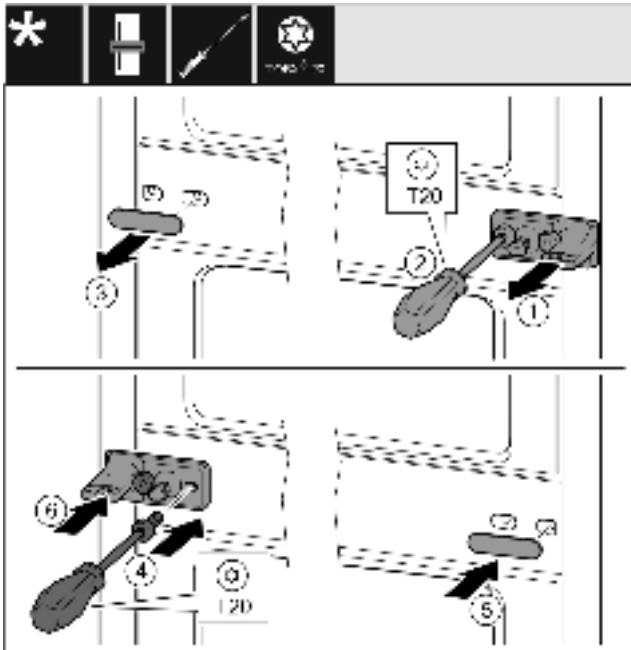

Fig. 12
- Remove the washer. *Fig. 12 (1)*
- Remove the screws with the T20 screwdriver. *Fig. 12 (2)*
- Remove the cover carefully. *Fig. 12 (3)*
- Screw the bearing bracket and the film rotated 180° firmly onto the other side. *Fig. 12 (4)*
- Attach the cover rotated 180° onto the other side. *Fig. 12 (5)*
- Push the washer in from the front. *Fig. 12 (6)*